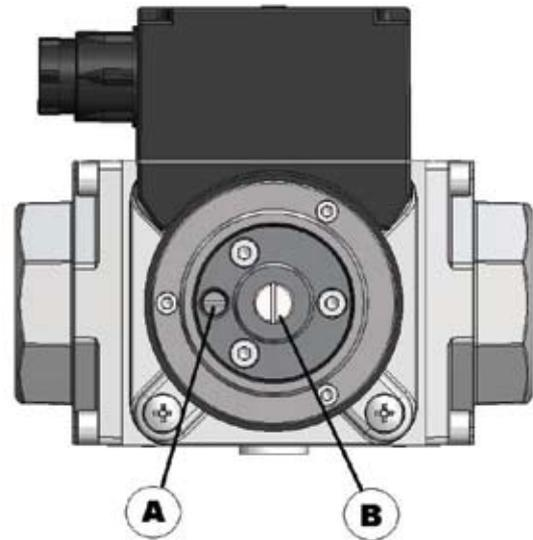

Fig 2. - Flow and Opening Time Adjustment - see Page 6
Series 2000 valves are fitted, as standard, with a flow adjuster. This device acts by restricting the opening of the valve and allow the gas flow to be adjusted from 0 to 100%. To adjust the gas flow unscrew the coil top cap (1) to access the adjuster screw (2 - also 'B' fig 2) inside the flange tube (9) of the valve. Use a flat bladed screw driver to make the adjustment. Turn the screw clockwise to reduce the flow and counter-clockwise to increase it. When the screw is completely tightened there is no gas flow and maximum flow occurs when the screw is completely loosened.
Slow Opening valves are factory set at minimum opening time. To adjust, Firstly remove the top cap (1) on the top of the coil and then with a flat bladed screwdriver (1 x 5.5) turn screw 'A' (fig.2) either clockwise to increase speed or anti-clockwise to decrease speed. Maximum time from fully open to fully closed is 15 seconds. **See Fig.2 page 5.**